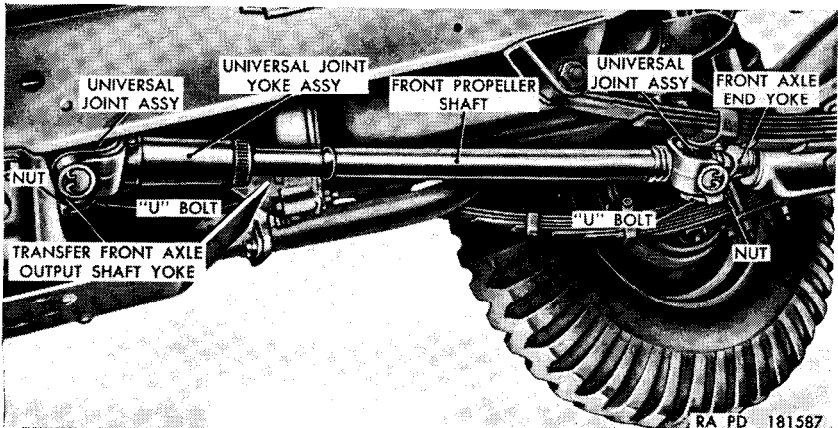
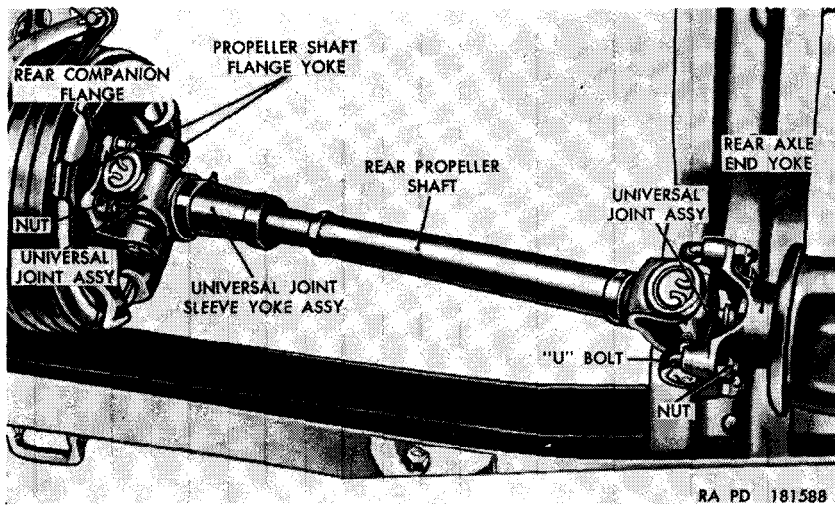

Figure 91. Front propeller shaft with universal joint assemblies—installed.
Figure 92. Rear propeller shaft with universal joint assemblies—installed.
a. *Description.* The front propeller shaft with universal joint assemblies (fig. 91) transmits power from the transfer to the front axle. The rear propeller shaft with universal joint assemblies (fig. 92) transmits power from the transfer to the rear axle. Each assembly includes a propeller shaft, a universal joint sleeve assembly, and two universal joint assemblies. Corresponding parts of both the front and rear assemblies are the same except for the length of the shaft and the front universal joint assembly of the rear propeller shaft. This universal joint assembly includes the propeller shaft flange yoke, and is modified accordingly. The four universal joint assemblies are roller bearing-types.
a. *Remove Front Propeller Shaft with Universal Joint Assemblies* (fig. 91).
- (1) Remove the four nuts from the two U-bolts holding the universal joint assembly to the transfer front axle output shaft yoke. Remove the two U-bolts and separate the joint from the yoke.
- (2) Remove the four nuts from the two U-bolts holding the universal joint assembly to the front axle end yoke. Remove the two U-bolts and remove the front propeller shaft with universal joint assemblies from the vehicle.
b. Remove Rear Propeller Shaft with Universal Joint Assemblies (fig. 92).
- (1) Remove the four nuts from the two U-bolts holding the universal joint to the rear axle end yoke. Remove the two U-bolts and separate the joint from the yoke.
- (2) Remove the four nuts and lockwashers holding the propeller shaft flange yoke to the rear companion flange and remove the rear propeller shaft with universal joint assemblies from the vehicle.
c. Install Front Propeller Shaft with Universal Joint Assemblies (fig. 91).
- (1) Position the universal joint assembly, on the end of the front propeller shaft, on the front axle end yoke. Install the two U-bolts over the ends of the universal joint and through the holes in the yoke, and secure in place with four $\frac{5}{16}$ -inch nuts.
- (2) Position the universal joint assembly, on the end of the universal joint sleeve yoke assembly, on the transfer front axle output shaft yoke. Install the two U-bolts over the ends of the universal joint and through the holes in the yoke, and secure in place with four $\frac{5}{16}$ -inch nuts.
d. Install Rear Propeller Shaft with Universal Joint Assemblies (fig. 92).
- (1) Position the propeller shaft flange yoke on the bolts projecting from the rear companion flange and secure in place with four lockwashers and nuts.
- (2) Position the universal joint assembly, on the end of the propeller shaft, on the rear axle end yoke. Install the two U-bolts over the ends of the universal joint and through the holes in the yoke, and secure in place with four $\frac{5}{16}$ -inch nuts.
Note. The operations for removing and installing the universal joint assemblies from the front end of the front propeller shaft, the rear end of the rear propeller shaft, and the universal joint sleeve yoke assembly of the front shaft are exactly the same and will therefore be referred to figure 91 which shows the rear propeller shaft.
- (1) Remove front propeller shaft with universal joint assemblies from the vehicle (par. 209a).
- (2) Remove the universal joint assembly (fig. 91) from the front universal joint sleeve yoke assembly following the procedure given in *b*(2) above.
- (2) Remove universal joint assembly (fig. 91) from the front propeller shaft following the procedures given in *b*(2) above.
f. Install Universal Joint Assembly in Front Universal Joint Sleeve Yoke Assembly. Install the universal joint assembly (fig. 91) in the front universal joint sleeve yoke assembly following the procedures given in *e* above.
g. Install Universal Joint Assembly in Rear Propeller Shaft. Install the universal joint assembly in the propeller shaft (L) following the procedures given in *e* above.
- (1) Install the universal joint assembly in the universal joint sleeve yoke (G) following the procedures given in *e* above.
- (2) Install the propeller shaft flange yoke (Y) on the two remaining bearings (B) of the universal joint assembly installed in (1) above. Follow procedures given in *e* above.
a. General. The universal joint sleeve yoke assemblies (figs. 91 and 92) used on the front and rear propeller shafts are practically identical and removal and installation procedures will be referenced to the rear sleeve yoke illustrated in figure 91.
yoke (fig. 91), put the two U-bolts over the bearings and through the holes in the shaft yoke, and install the four $\frac{5}{16}$ -inch nuts.